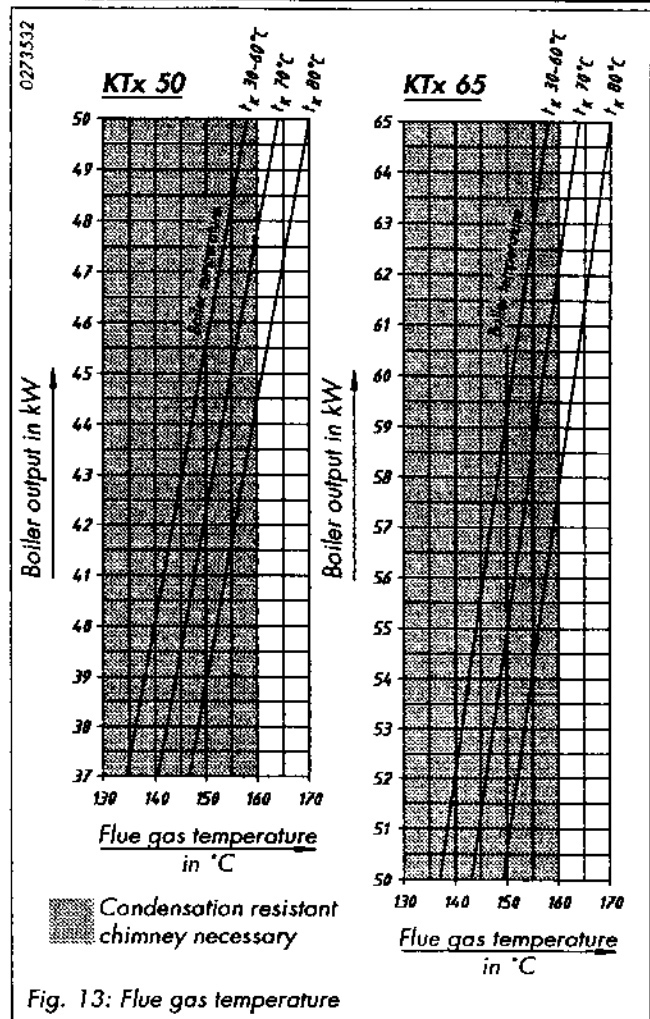

Fig. 13: Flue gas temperature
- Set the oil or gas throughflow so that the boiler is operating inside of its declared operating range and that the nominal output of the boiler is not exceeded - Check that the chimney is suitable for the flue gas temperature (see Fig. 13).